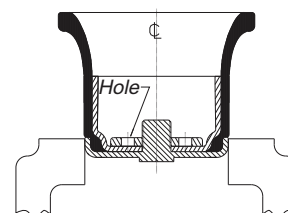

Figure 3
6. Place diaphragm assembly into a vise and secure Inner Diaphragm Guide as illustrated in Figure 3. Do Not over tighten. Remove stem by locating a wrench around the flats and turn counter clockwise. Remove adapter and nut. The nut may be removed by inserting a punch into the hole in its face, and tapping nut counter clockwise.